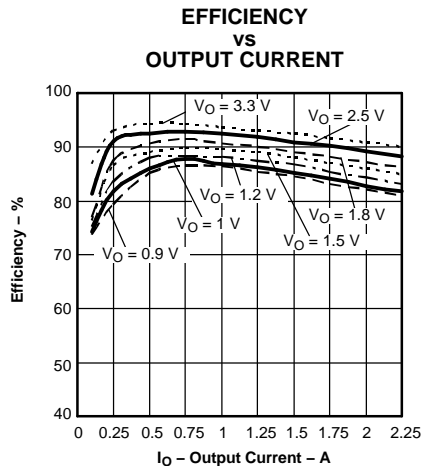
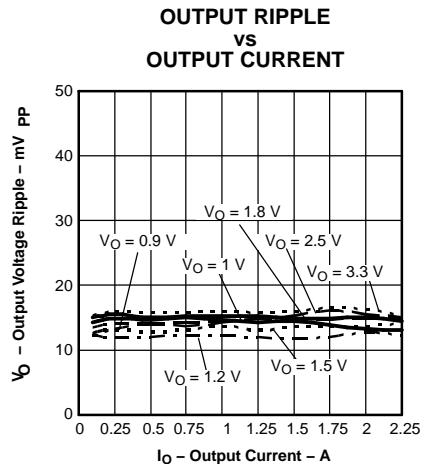
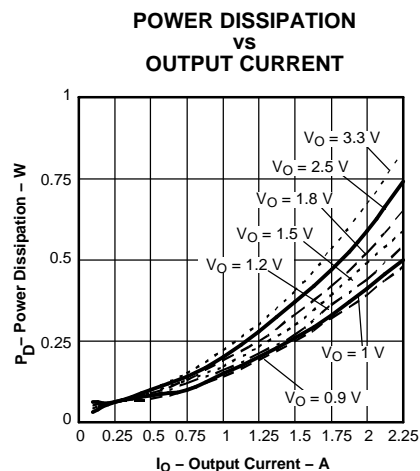

Figure 2.
Figure 3.
Figure 4.
- (1) The electrical characteristic data has been developed from actual products tested at 25°C. This data is considered typical for the converter. Applies to Figure 2, Figure 3, and Figure 4.